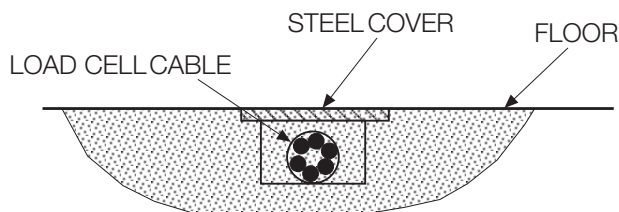

Figure 2-4. Load Cell Protection
7. The cable must be routed to the indicator in a manner that will protect the cable from damage. This method of cable protection in non-washdown applications are shown in Figure 2-4. When planning cable routing, leave a loose coil of excess cable under the scale to facilitate future lifting of the scale for servicing or cleaning.